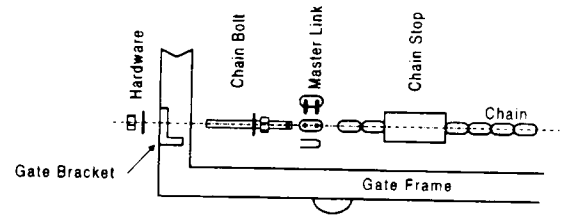

FIGURE 1.9.1A
4. Attach the chain to the chain bolts using the master links supplied, then attach the chain bolts to the chain brackets using the hardware supplied (figure 1.9.1A). Make any adjustments to the chain length at this time.
5. Adjust the chain bolts to tighten the chain. The chain should sag no more than one (1) inch per 10 feet of travel. Do not over tighten the chain.